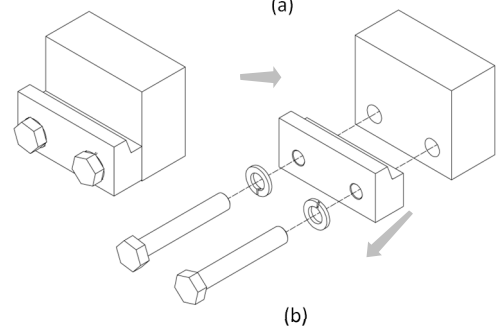

Figure 10
4. Remove the lower couplings from the equipment (see *Figure 10*).